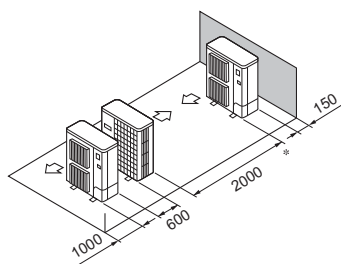

Fig. 2-13
- ⑤ Enkelt parallelt enhed arrangement (Fig. 2-13)